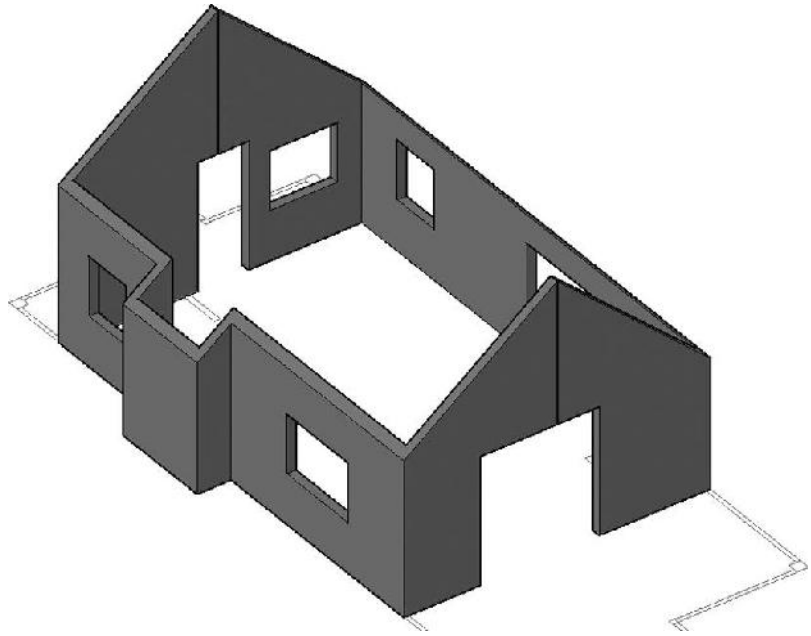

FIGURE 16.81: Both peaks are completed.
11. Zoom out, and you'll see that adjusting one end of the sliced object adjusted the other and that the peak is already constructed at the back of the cabin (see Figure 16.81).